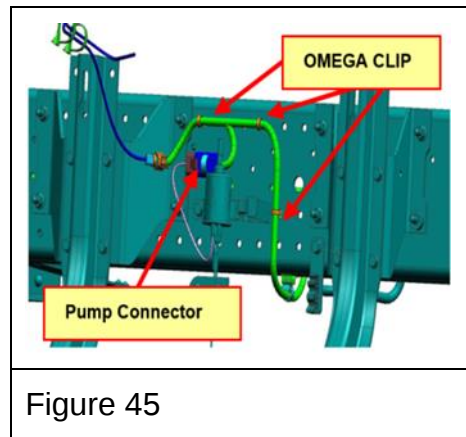

Figure 45
10. Connect the fuel pump/auxiliary tank sending unit harness connector to the fuel pump connector. (See Figure 45.)
11. Secure the fuel pump/harness connectors and the DFT harness to the frame using omega clips. (See Figure 45.)